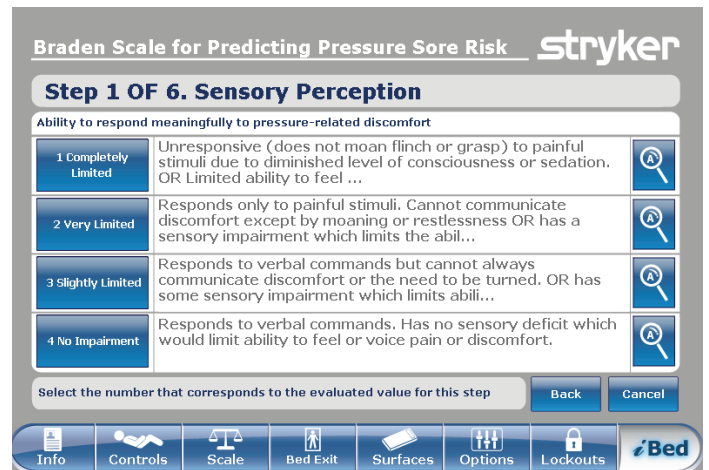
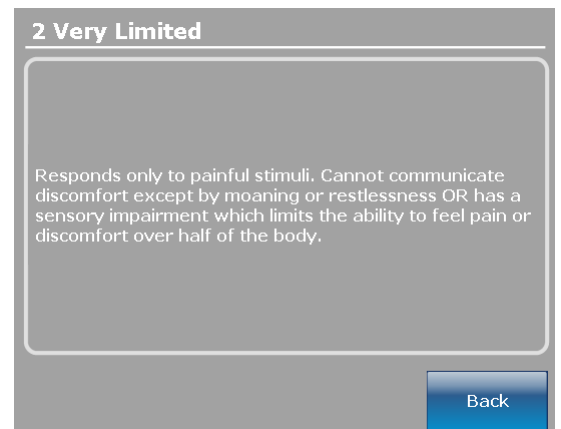

Figure 95 – Braden scale for predicting pressure sore risk
Figure 96 – Complete value information
2. Tap the corresponding value (1–4) in each category (Figure 95).
**Note** - To view a complete description of a value, tap the magnifying glass icon (Figure 95). Another window appears with the complete value description (Figure 96).